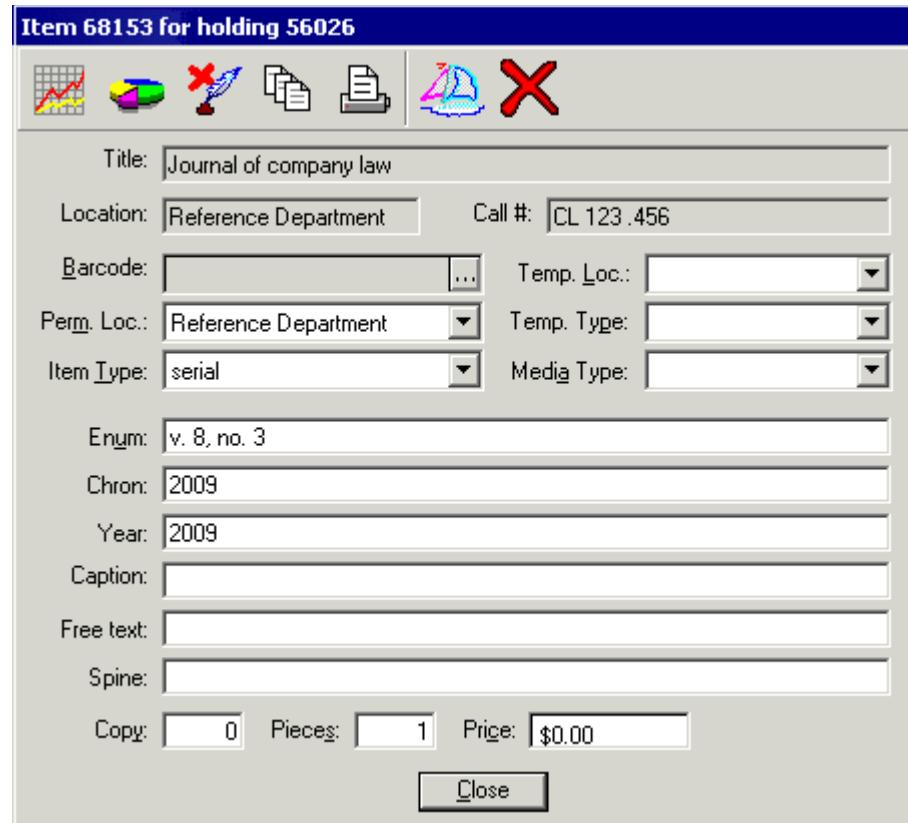

Figure 9-8. Item record automatically created on receive
- If a single item record was created, the newly-created item record opens (see Figure 9-8).